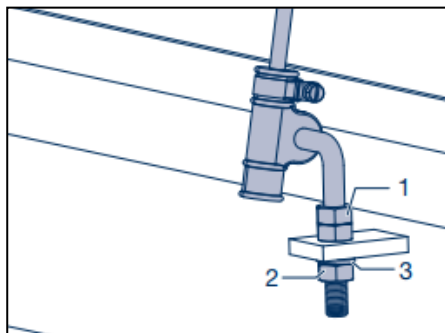

Figure 4
10. Referring to Figure 4, loosen Nut 2 on the lever arm and adjust Nut 1 to change the ride height.
12. Once ride height has been set correctly tighten Nut 2 (see Figure 4)